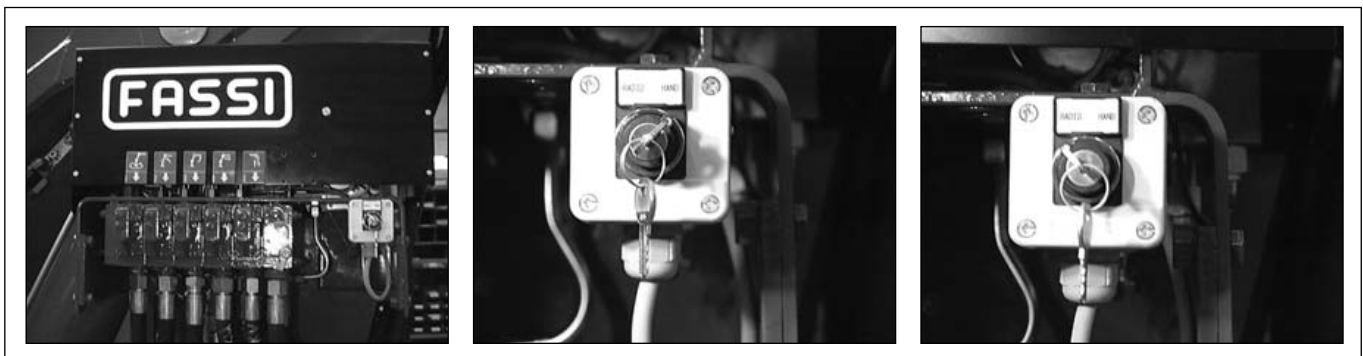

fig. 35
- Turn the selector swith (fig. 35) on the **Manual - Radio** panel to **Radio**.
- Turn the selector swith (fig. 35) on the **Manual - Radio** panel to **Manual**.
- Turn the selector switch (fig. 35) on the **Manual - Radio** panel to **Radio**.
Turn the selector switch (fig. 35) on the **Manual - Radio** panel to **Radio**.